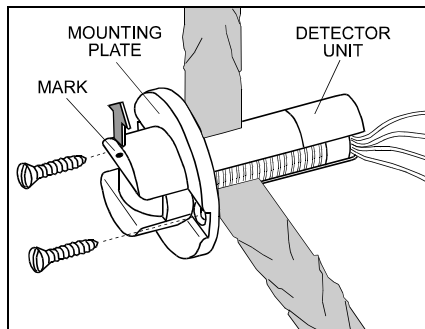

Figure 4. Model SPY 3 Installation
- Prepare the mounting plate screw holes on a horizontal line, making sure that the mark on the front of the detector unit faces up (Fig. 4).
- Holding the detector unit by the mounting plate, insert it, rear end first, into the hole, with the mark on the front facing up (Fig. 4).